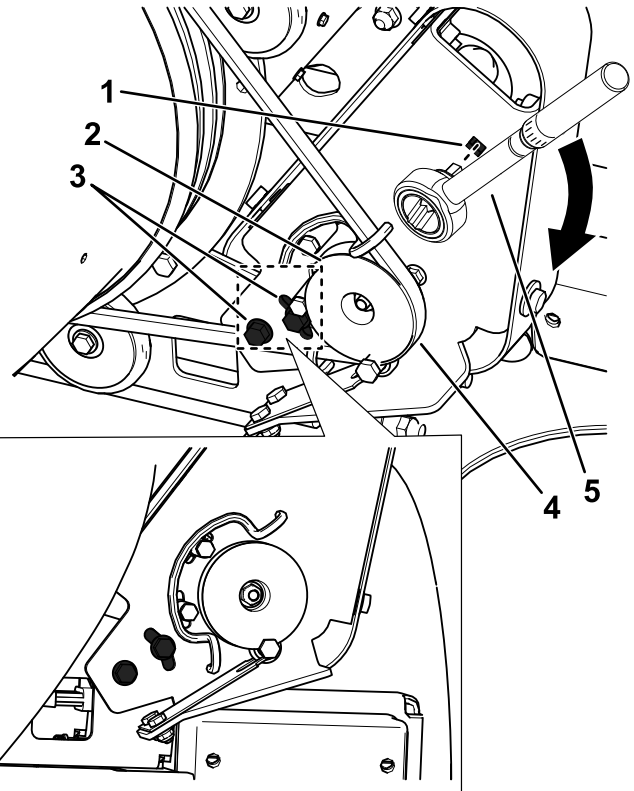

Figure 28
1. Loosen the bolts securing the pulley mounting bracket to the blower frame (Figure 28).
2. Insert the drive of a torque wrench into the pulley mounting bracket as shown in Figure 28.